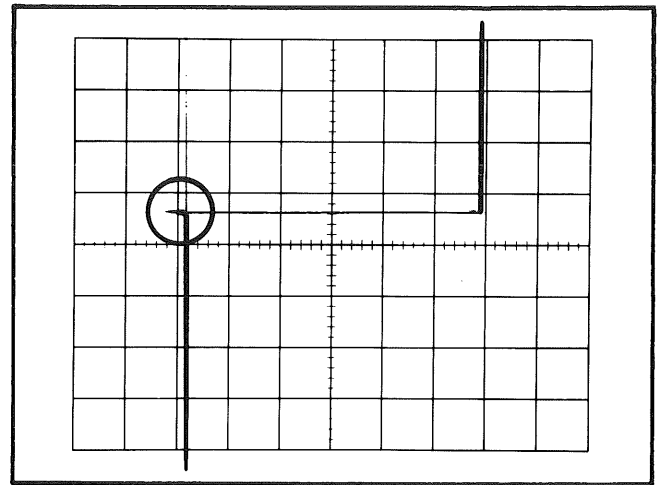

Fig. 14. Typical waveform obtained when adjusting horizontal deflection plate capacitance compensation.
h. Interchange plug-ins and adjust C761 for an optimum flat-top waveform. Fig. 14 shows the waveform obtained when checking horizontal compensation. The FOCUS control will need readjusting when the plug-ins are interchanged.